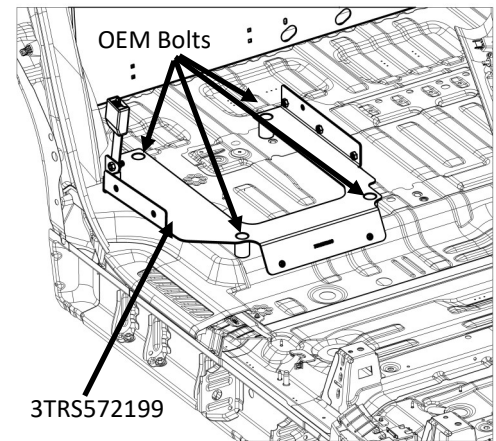

Figure 7
1. Locate the Seat Bracket [3TRS572199] and place it on the floor of the vehicle with the angled flange towards the front of the vehicle. Seat bracket should line up with all 4 OEM seat bolt locations. Loosely start all (4) OEM seat bolts. Once all (4) bolts are started, use T50 Torx to tighten bolts to OEM torque specifications to secure the Seat Bracket.
2. Place the OSB Buckle [3OSB000002 or 3OSB109RP for retractor belts] against the inboard face of the rear outside hole on the seat bracket (use the hole that DOES NOT have a weldnut). Secure the buckle in place using a 5/8" wrench and socket and (1) 7/16"-20X1" grade 8 hex bolt [3X616] and (1) 7/16"-20 grade 8 hex nut [3X614].
3. Figure 7 shows the locations of the seat bracket.